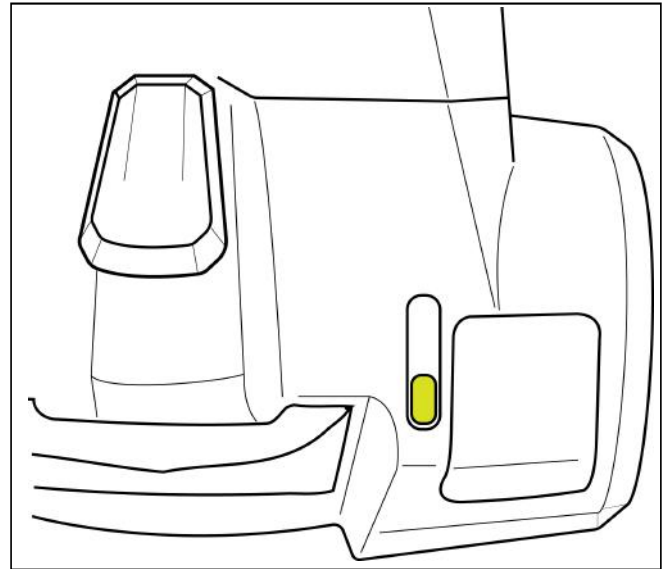

Figure 12: Drive Position
Pull back on the freewheel lever towards the letter D (Drive Position). See figure 12.
2. Check to be certain that your Buzzaround Lite freewheel lever is in the engaged in the drive position. See figure 12.